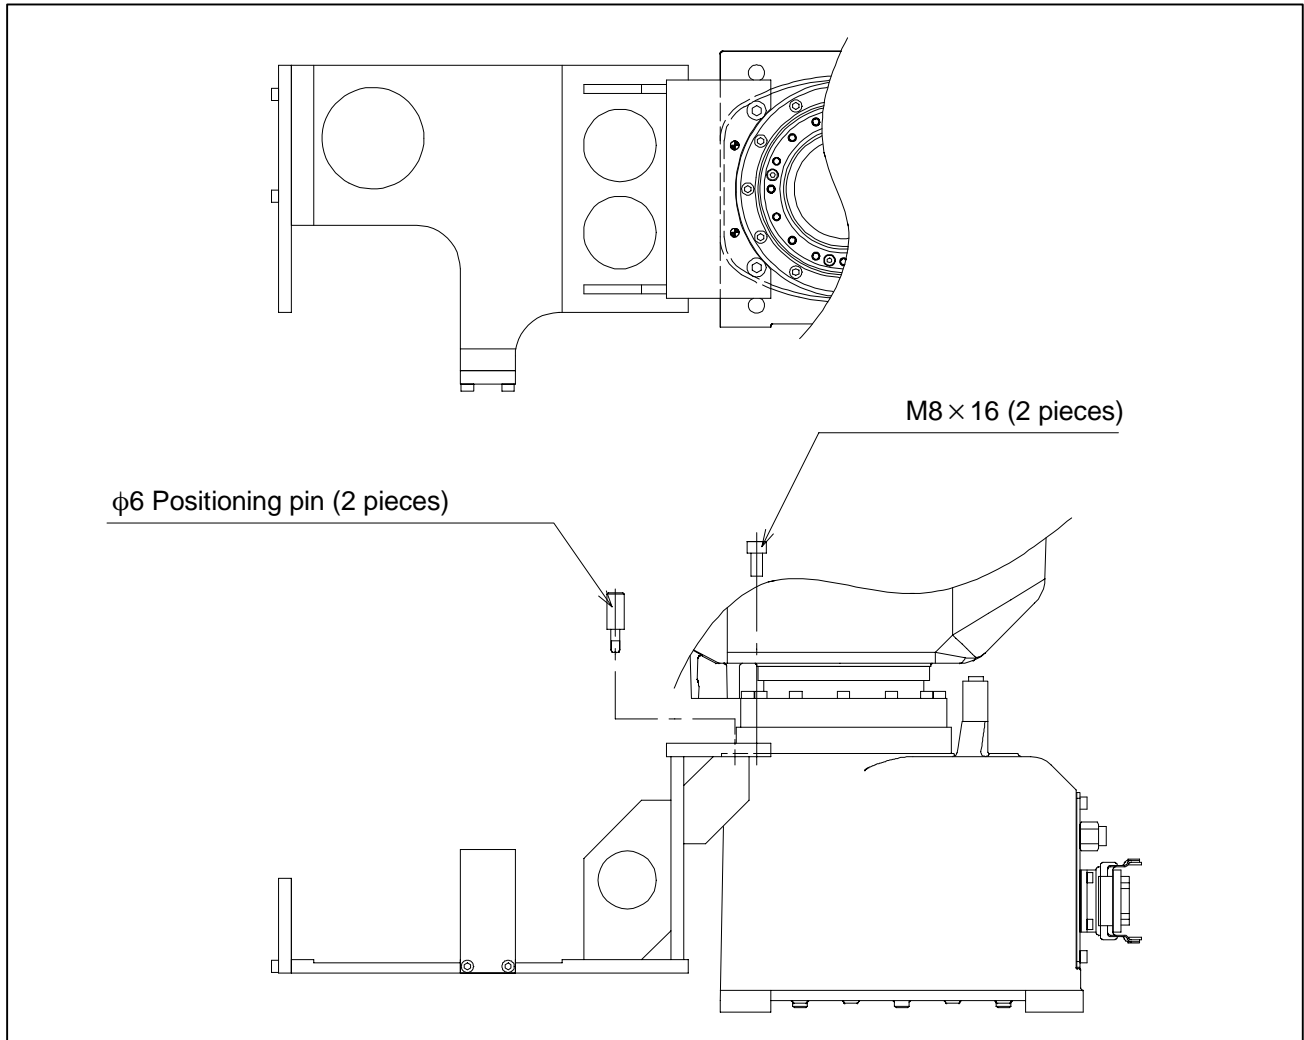

Fig.5.2.3 (b) Mounting fixture base
- 3) Mount the wrist fixture as shown in Fig.5.2.3 (c).